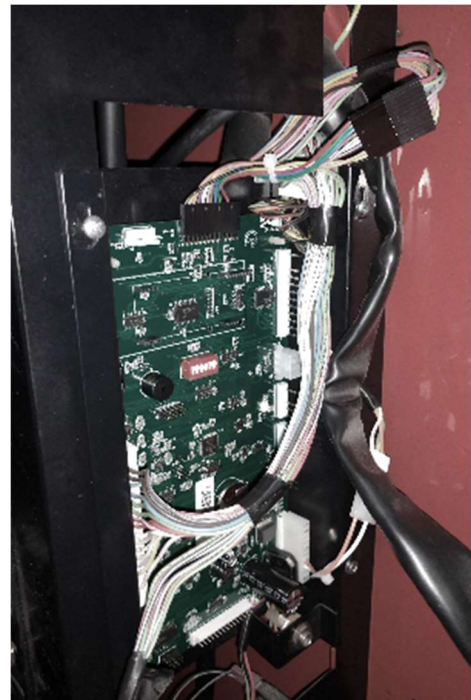

Figure 4
**Note:** some controllers are on the door, other models inside the cabinet. On some model machines the keypad header is installed facing up. Refer to Figure 4.